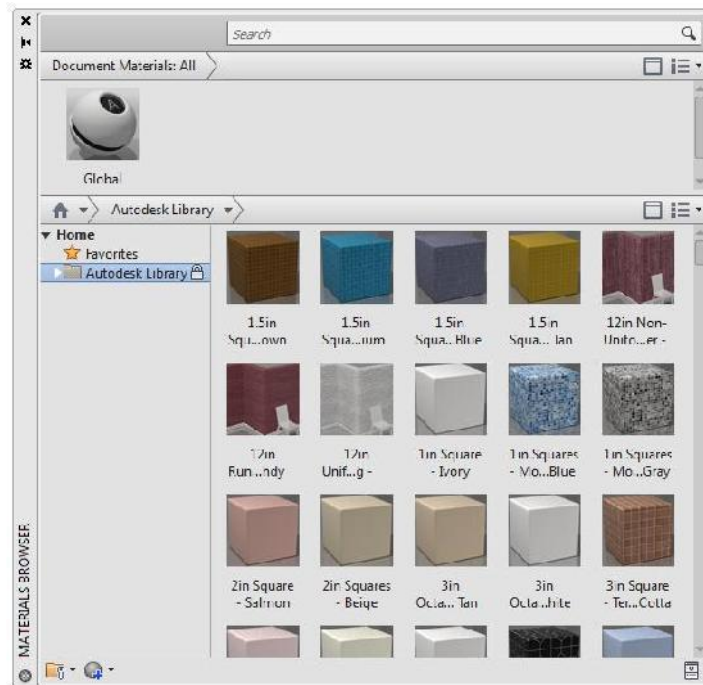

FIGURE 17.25: The Materials Browser palette
2. Click the Visualize tab, and then click the Materials Browser button in the Materials panel to open the Materials Browser palette shown in Figure 17.25.